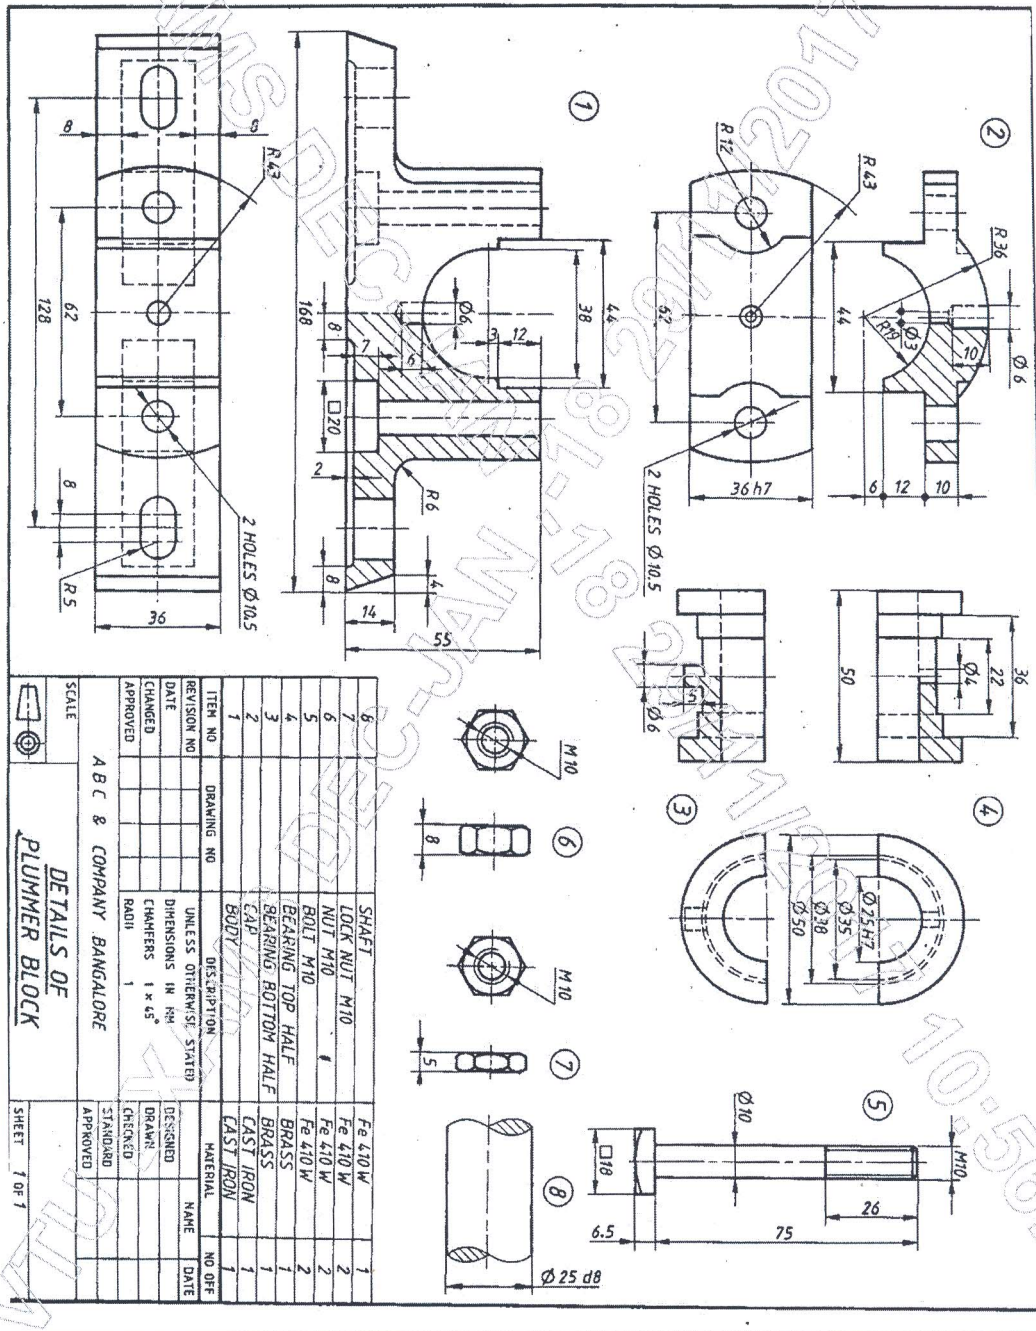

Figure 2
- Q.No.5** Following figure 2 shows the details of Plummer block. Assemble the parts of Plummer block and draw i) Right half sectional view ii) Top view. **(50 Marks)**